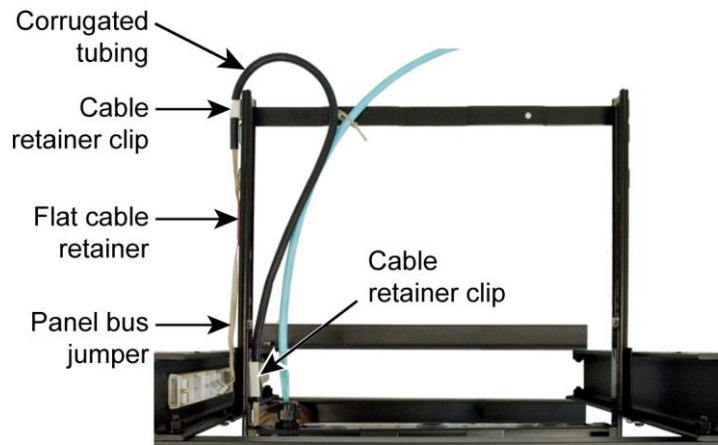

Figure 10 Positioning the Panel Bus Jumper Outside the Shelf (Top View)
Snap the tubing into the cable retainer clip on the inside of the sliding rail as shown (Figure 10).
Snap the tubing into the cable retainer clip on the outside of the sliding rail as shown (Figure 10).
8. Secure the exposed ribbon cable of the panel bus jumper in the flat cable retainer on the outside of the sliding rail as shown (Figure 10).